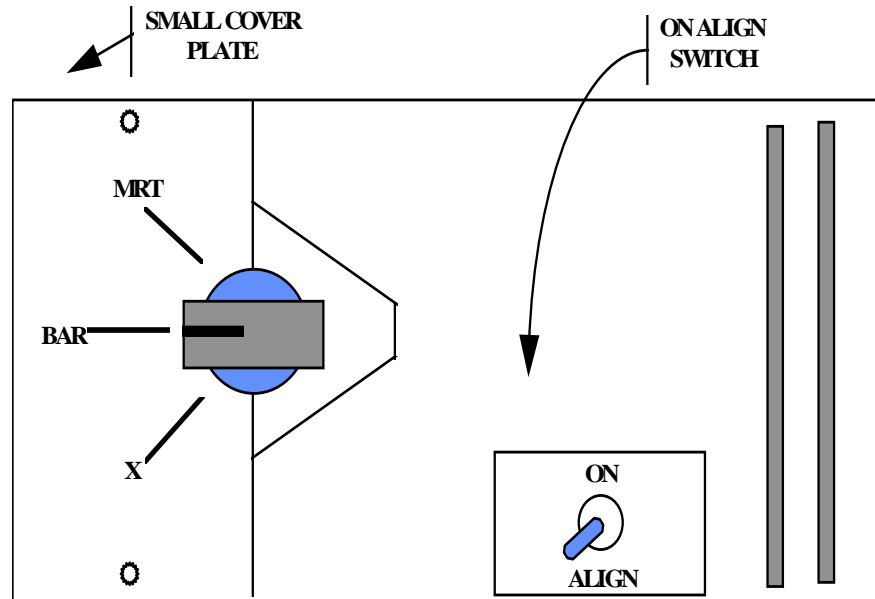

Figure 3. Large cover plate removed (top view).
- d. Set ON ALIGN switch to ALIGN (fig. 3).
- (6) Set **ON ALIGN** switch to **ON** (fig. 3).